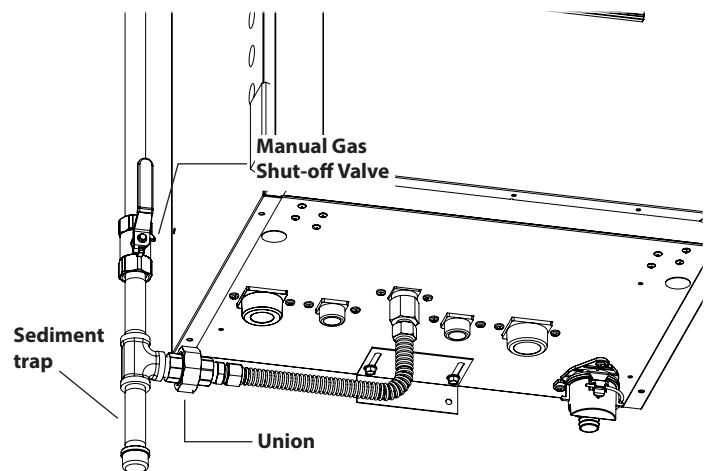

Figure 54 - Gas Line with Shut-Off and Sediment Trap Detail
- The National Fuel Gas Code (NFPA 54) requires that a sediment trap (drip leg) be installed in the gas line on boilers not so equipped. The drip leg must be accessible, a minimum of 3" in length, and not subject to freezing conditions. See Figure 54.
- A manual gas shut-off valve should be installed in the gas supply line close to the boiler. See Figure 54.